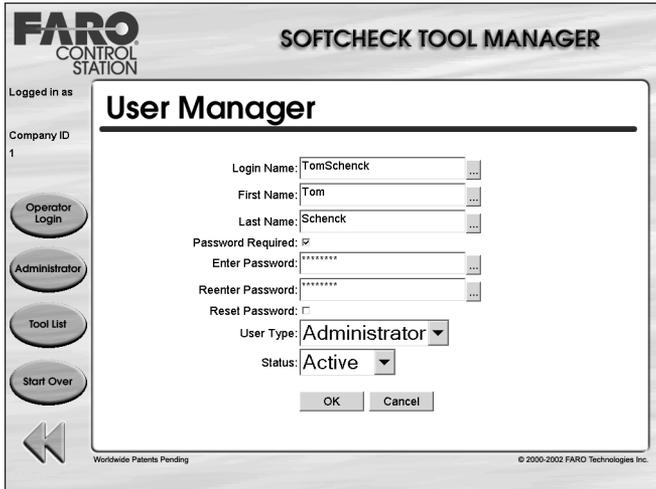

Figure 2-3 Adding an Administrator Login Name and Password
- 6 Touch OK to open the Administrator screen when you are finished. See Figure 2-3, "Adding an Administrator Login Name and Password."